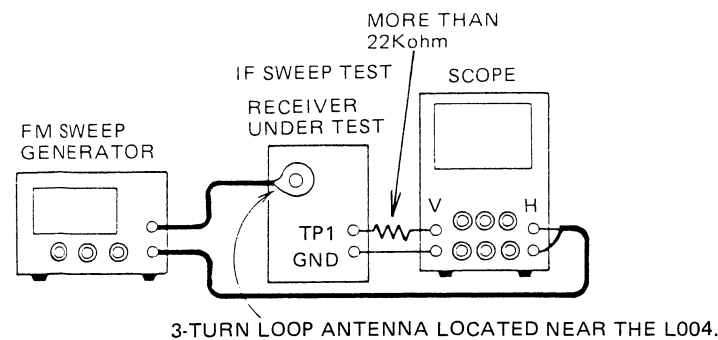

Figure 10
3. Connect the RF SWEEP SIGNAL OUTPUT of the sweep generator through the loop antenna to the receiver. (Figure 10)